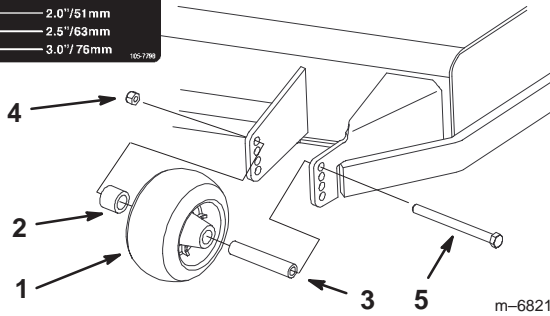

Figure 18
2. After adjusting the height-of-cut, adjust the rollers by removing the flange nut, bushing, spacer, and bolt (Fig. 18).
3. Select a hole so the anti-scalp roller is positioned to the nearest corresponding height-of-cut desired (Fig. 18).
4. Install the flange nut, bushing, spacer, and bolt. Torque to 40–45 ft-lb (54–61 N·m) (Fig. 18).